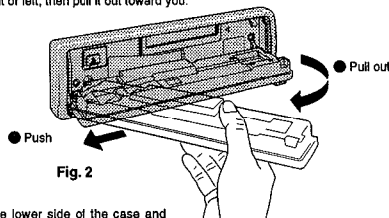

Fig. 2
- Pull out the unit white pushing the lock lever using Screwdriver. (Fig. 1, Fig. 2)